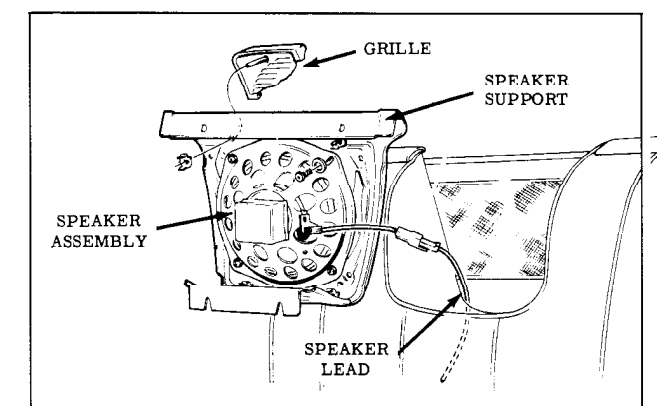

Fig. 15-13 Rear Seat Speaker (67 Styles)
5. Disconnect lead wire from speaker. Remove the four speaker attaching screws and remove speaker. (Fig. 15-13)